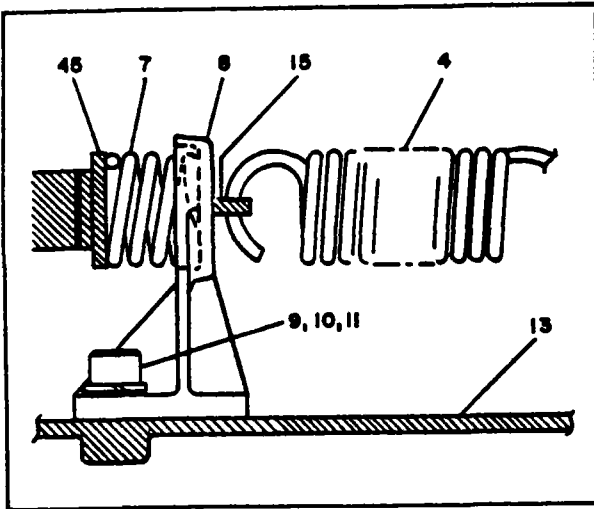

FIGURE 9 - Installing Optional Gain Suppression Kit
INSTALLING OPTIONAL GAIN SUPPRESSION KIT (Refer to Figure 22 and Figure 9)
2. Disconnect range spring (Figure 9, item 4) from spring retainer (15) using needle nose pliers.
3. Install spring (7) over signal nut (45) until spring contacts signal nut flange.
4. Install "bonnet" portion of retainer (8) over spring retainer (15) until retainer (8) secures spring (7) in position.
5. Install screws (9), lockwashers (10) and small washers (11) thru retainer (8) and into Positioner base assembly (13). Do not tighten securely.
6. Reassemble range spring (4) to spring retainer (15).
8. Position retainer (Figure 9, item 8) on its slotted holes so it is in position to exert a slight, even compression load on spring (7) when cam and signal pressure are at 0%. Tighten screws (9) in this position.